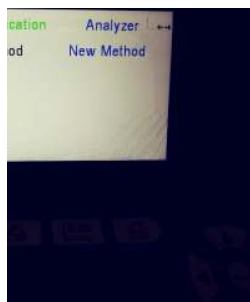

Figure 7. APPLICATION ANALYZER
9. Then the screen will show APPLICATION ANALYZER, press the right arrow again. Refer to figure 7.